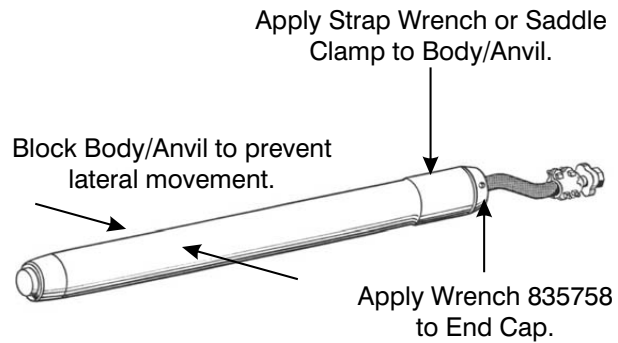

Figure 8-2. Loosening the End Cap.
1. Place the Hole-Hog on a level surface and secure it with a strap wrench or saddle clamp. Block the Hole-Hog to prevent rolling during removal of the End Cap. Refer to Figure 8-2.
2. With the Body/Anvil (1) secured in place, use wrench P/N 835758 to loosen the End Cap (10). It may be necessary to strike the wrench handle several times with a hammer to loosen the End Cap.